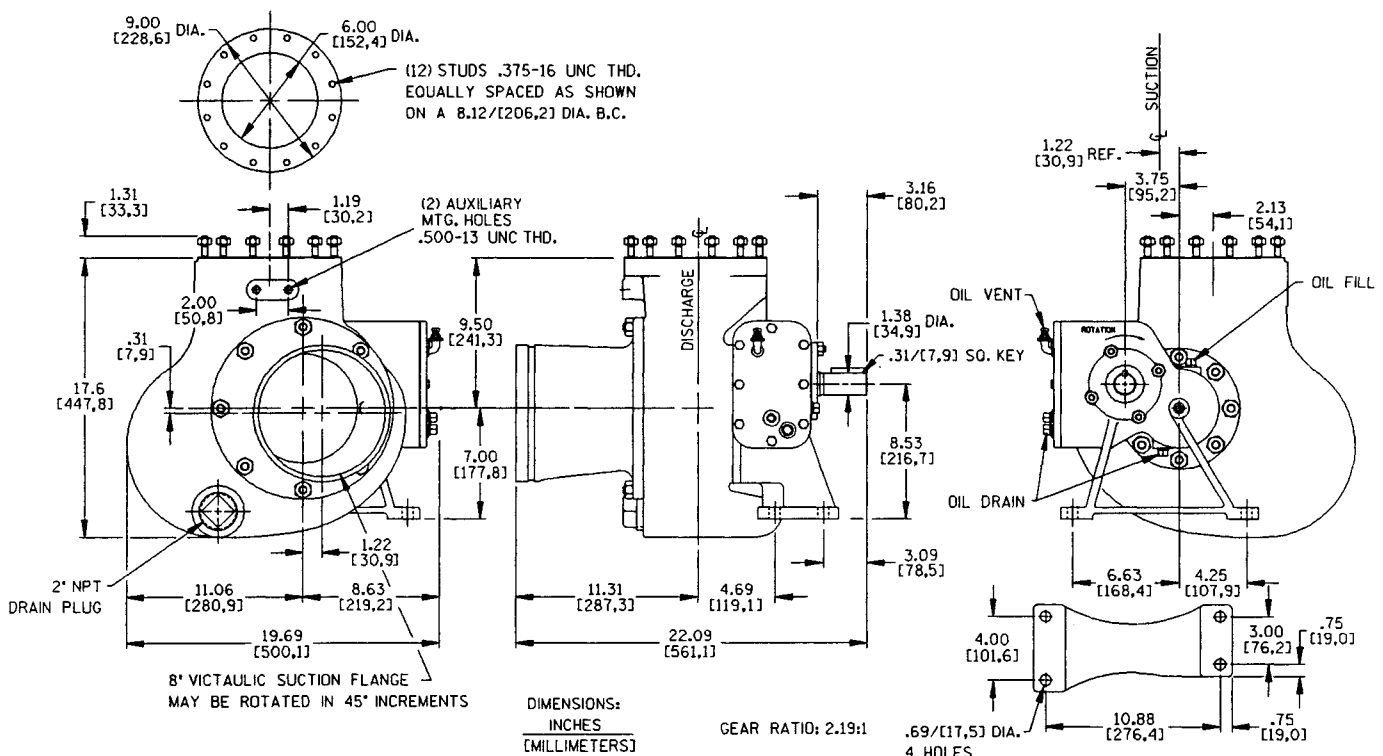

Figure 1. Pump Model 08C1-GAR
See Figure 1 for the approximate physical dimensions of this pump.
*If the gearbox is rotated out of the standard position shown in Figure 1, the oil fill and drain plugs must be*